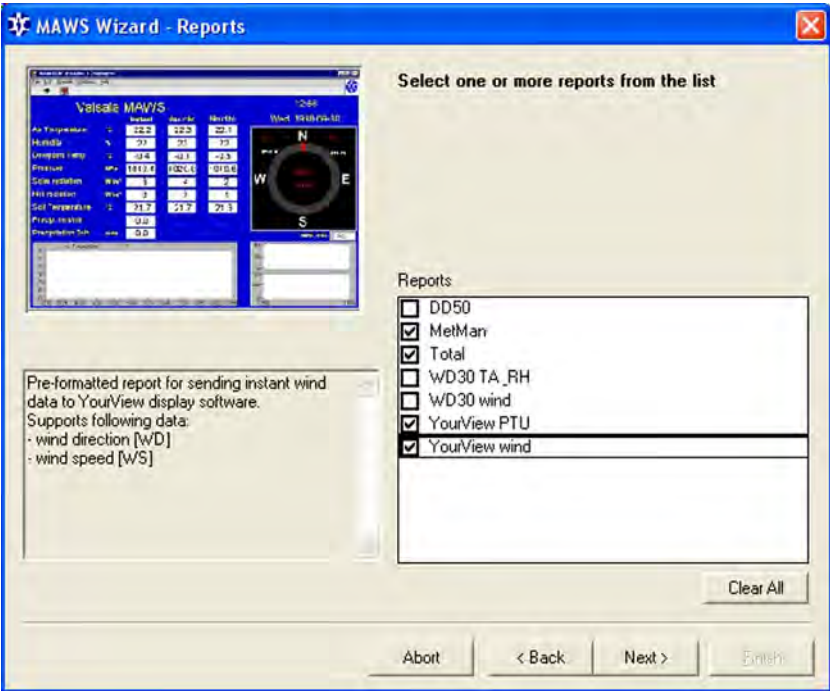

Figure 19 **Selecting Reports**
9. In the **Reports** view (presented in Figure 19 on page 41), you can select and fill out the reports you want for your setup. After selecting the necessary reports, click **Next**.